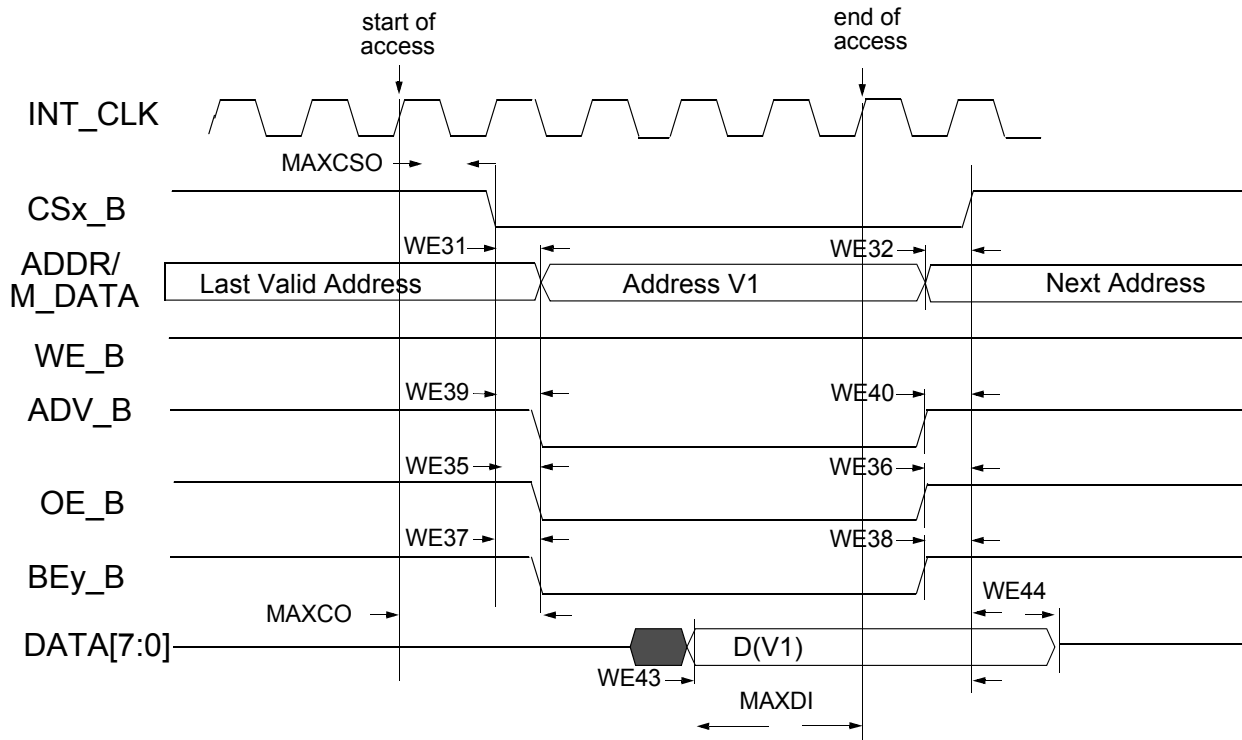
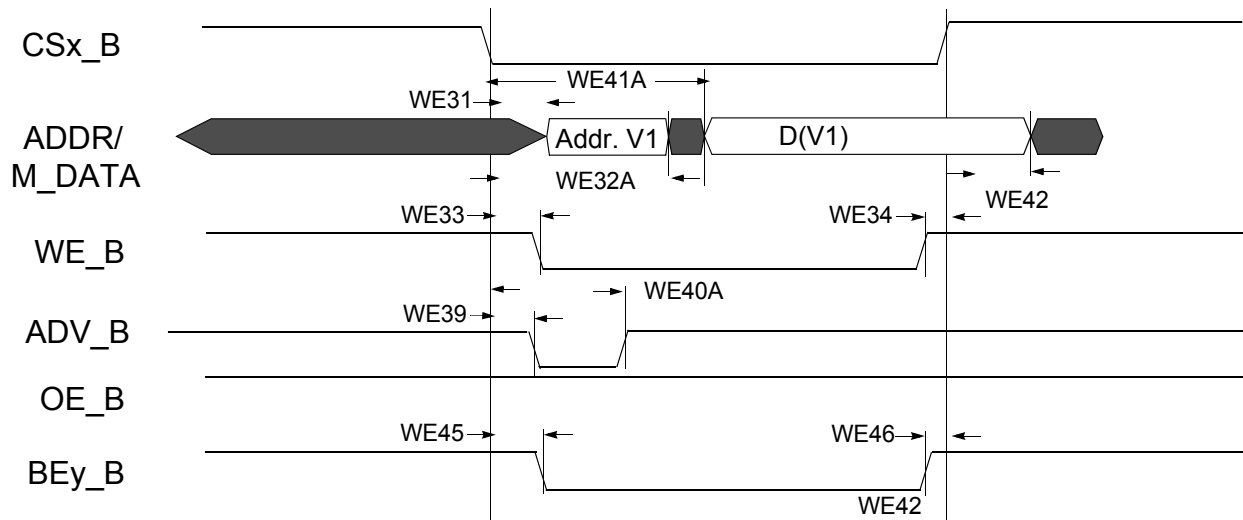
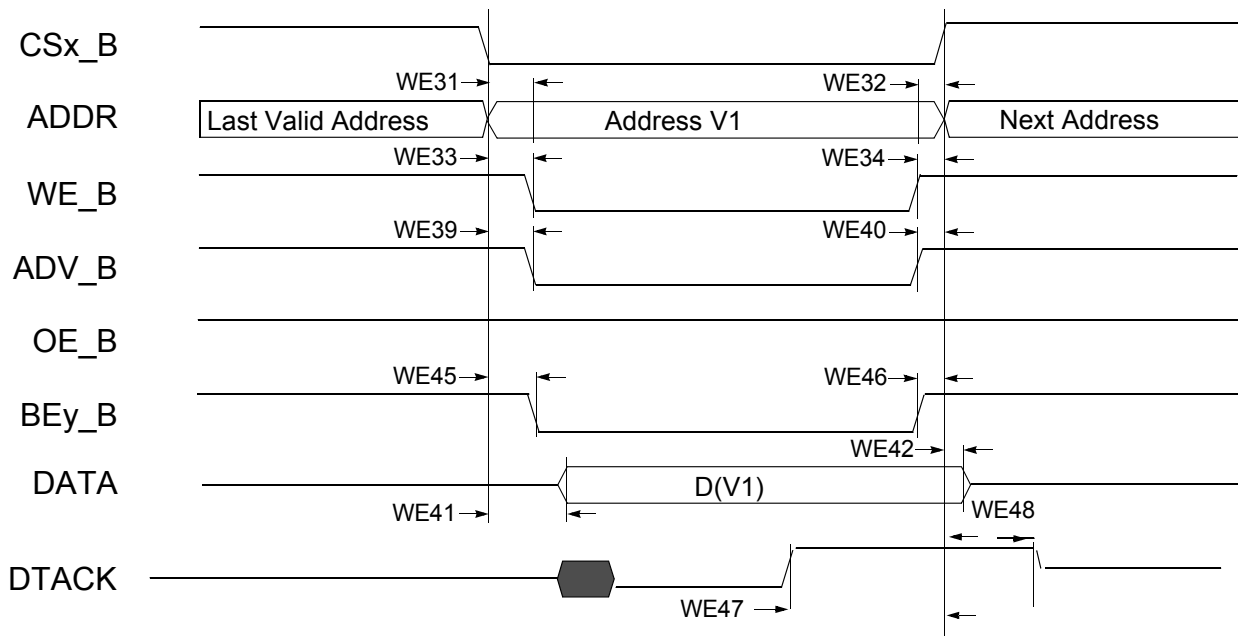

Figure 22. Asynchronous Memory Read Access (RWSC = 5)
Figure 25. Asynchronous A/D Muxed Write Access
Figure 27. DTACK Write Access (DAP=0)
Figure 22 through Figure 27, and Table 39 help to determine timing parameters relative to the chip select (CS) state for asynchronous and DTACK EIM accesses with corresponding EIM bit fields and the timing parameters mentioned above.
Asynchronous read and write access length in cycles may vary from what is shown in Figure 22 through Figure 25 as RWSC, OEN, and CSN is configured differently. See i.MX53 reference manual for the EIM programming model.